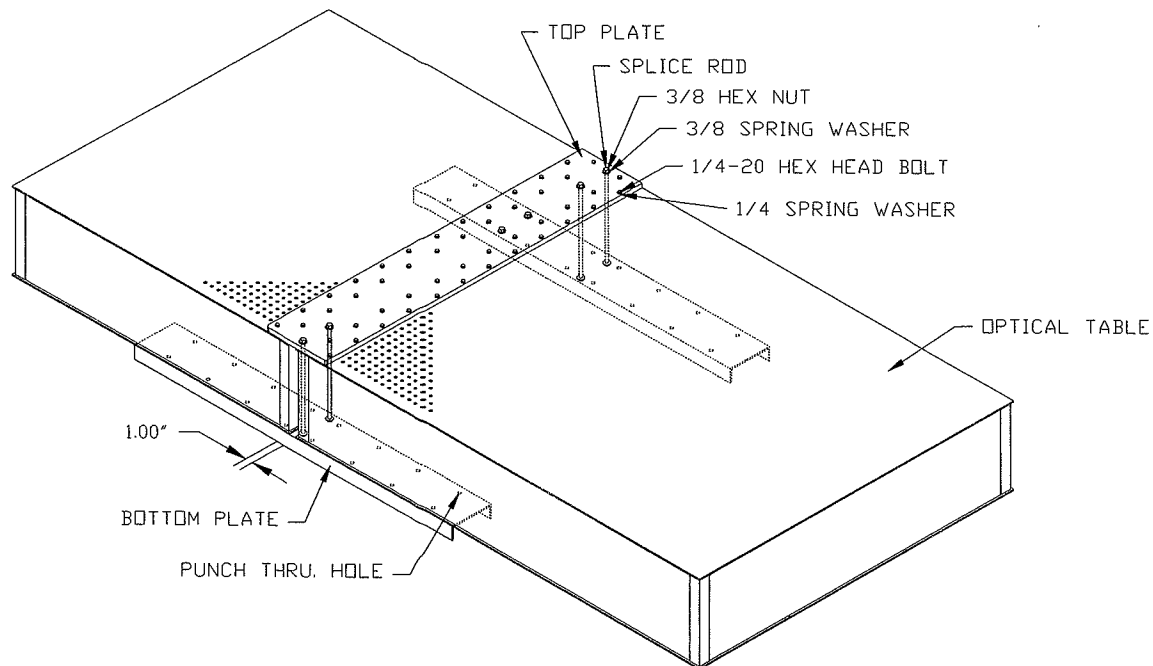

Figure 9. Typical Optical Tabletop Splice Kit Connection
1. Place the two table leave 1" gap between each table as shown in Figure 9.